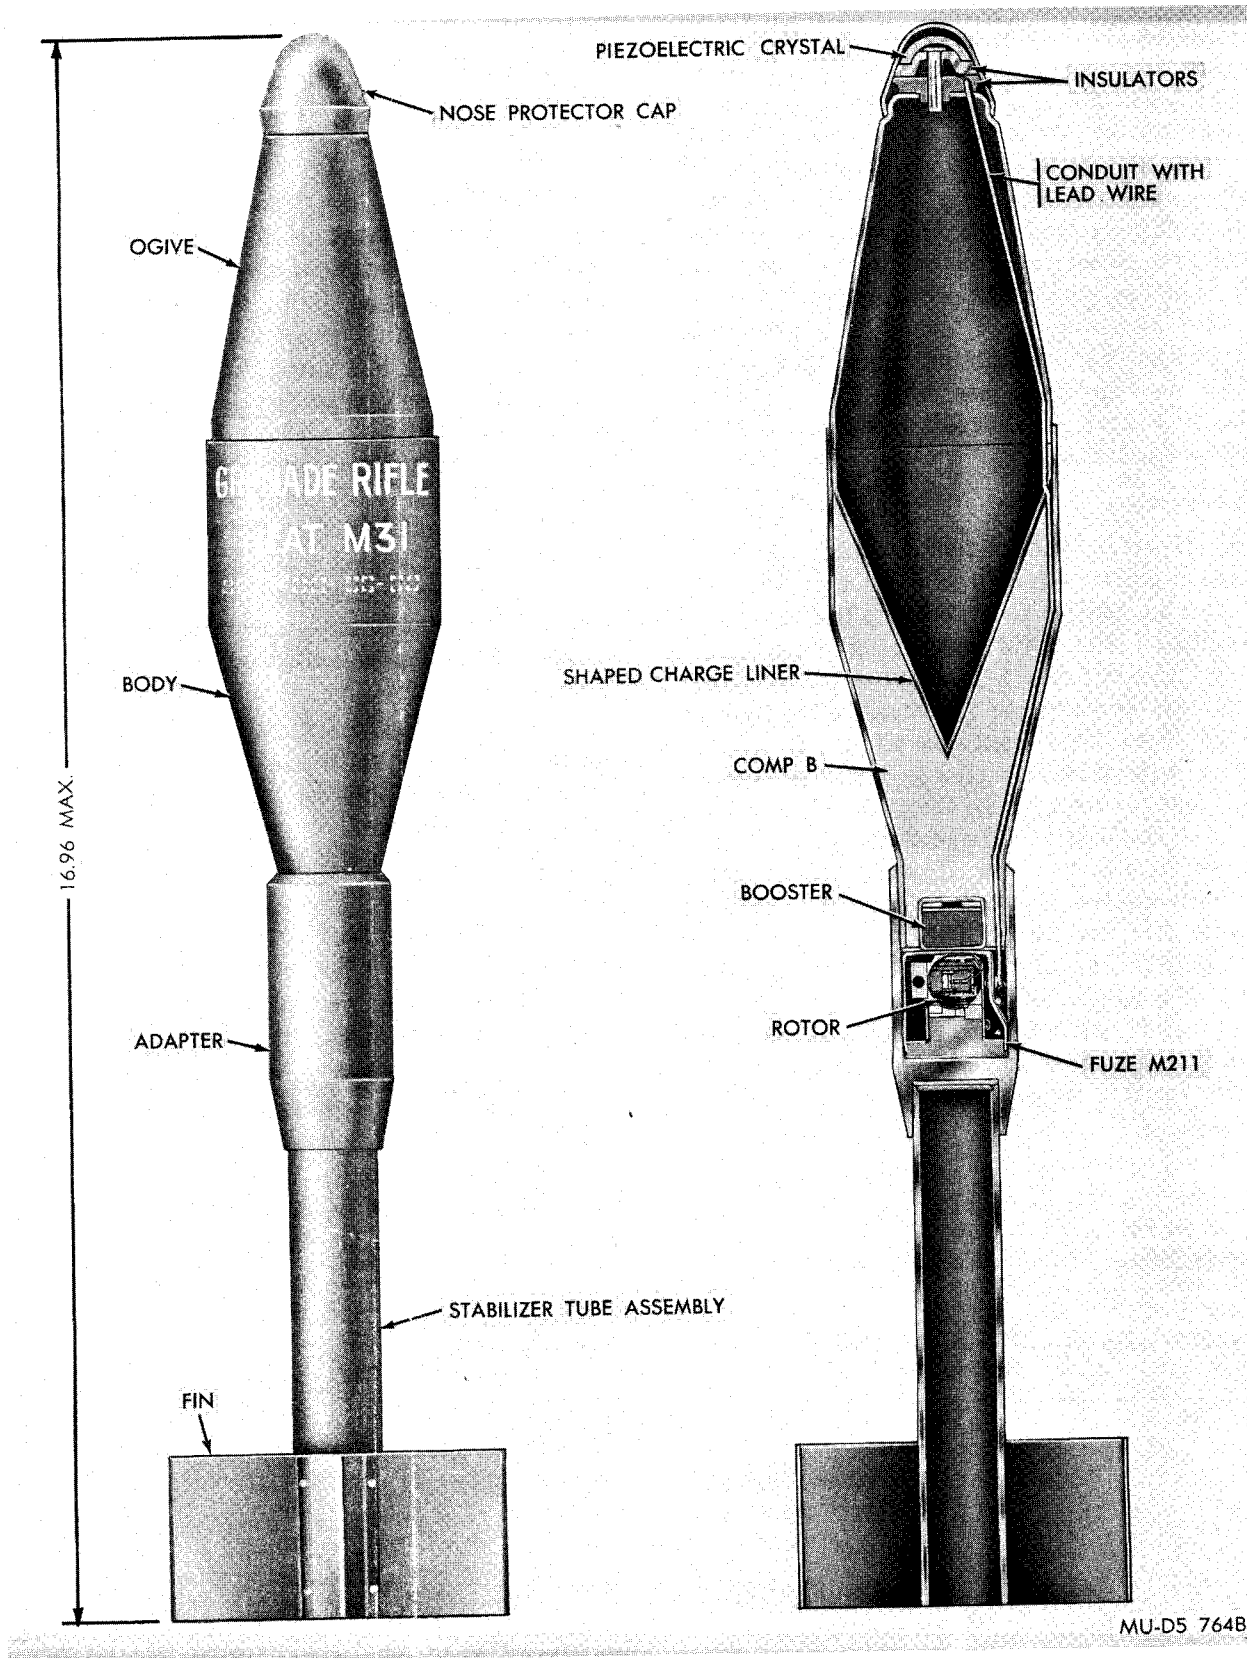

Figure 3-3. HEAT rifle grenade M31.
a. *General.* This rifle grenade (fig. 3-3) is a point-initiated, base-detonated (PIBD), high-explosive, antitank (HEAT) grenade. It employs a shaped charge to defeat armor plate or concrete, and will function against targets at all angles of obliquity up to 65°. The grenade uses a piezoelectric assembly which generates an electric current when crushed on impact with the target. This action initiates the explosive train. Only Rifle Grenades M31, which are assembled with modified nose assemblies, are authorized for use. The modified nose assembly has a positive ground between the piezoelectric crystal and the metal nose protector cap.